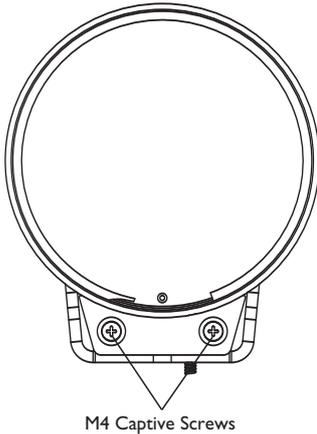

FIGURE 1 Loosening the Captive Cover Screws
2. Use a screwdriver or socket to loosen the two M4 captive screws from the housing cover. See FIGURE 1.